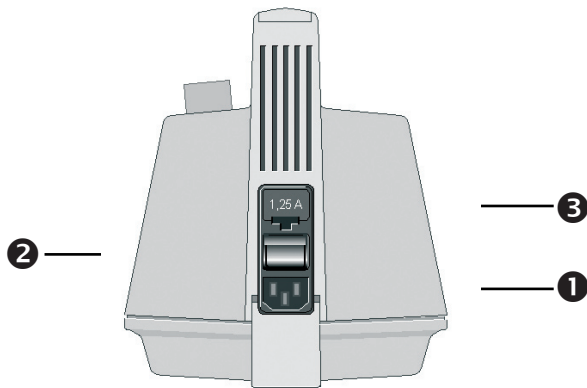

Fig. 2. Rear view of the ATMOS LC 16
- Connect the power cable (①, fig. 2) to the power attachment and the power plug to the local power socket.
- Start the unit with the switch (②, fig. 2).
### Changing fuse (fig. 2)